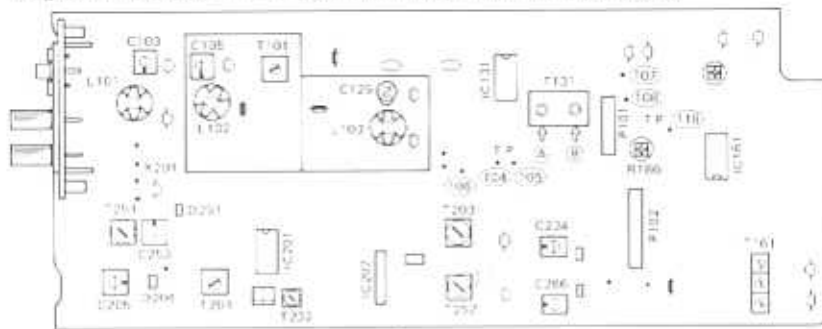

Fig. 14
6. Connect the Frequency Counter to 19 kHz Test Point. (TP116) See Fig. 14.